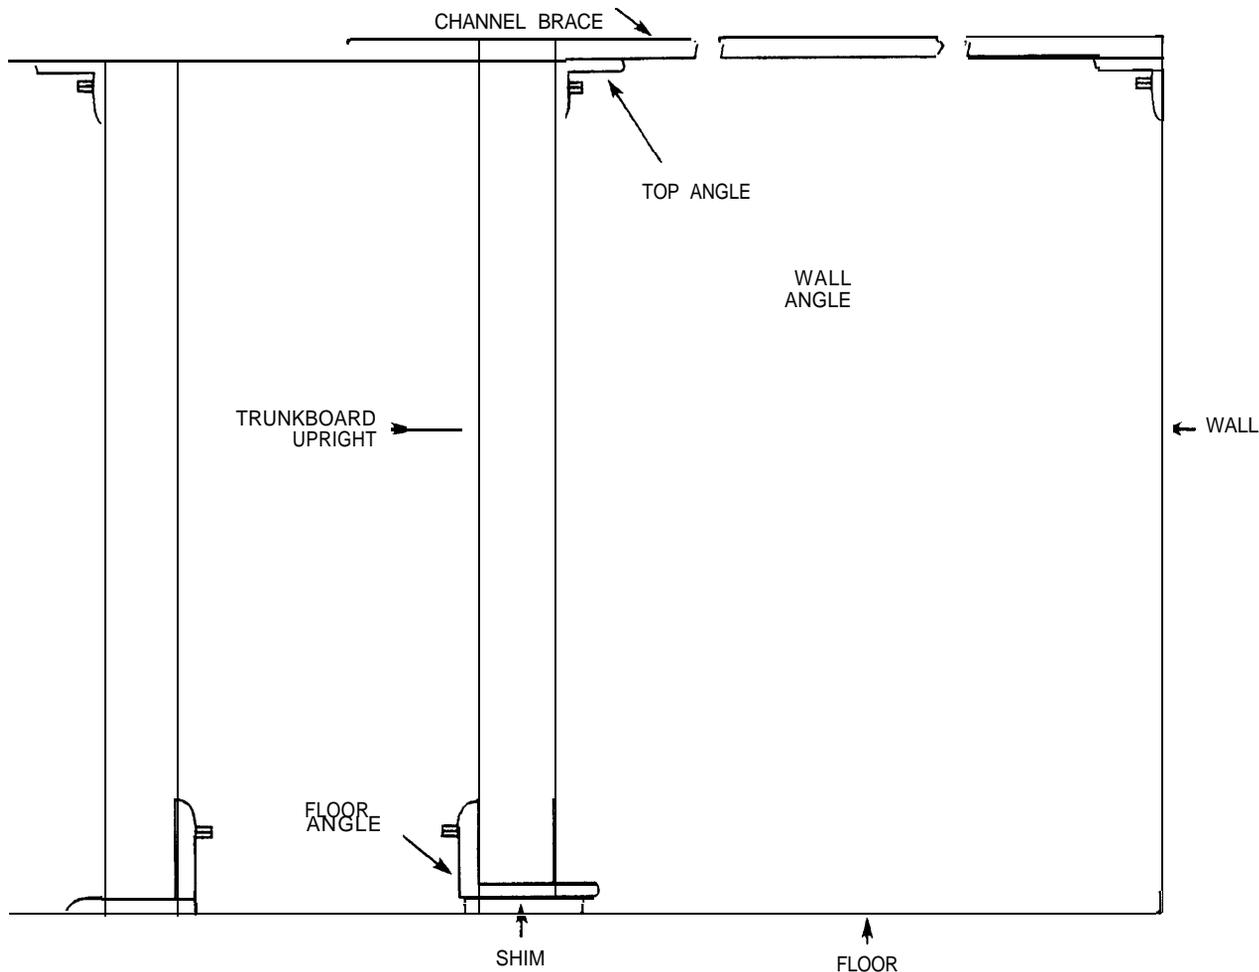

Figure 11. Shim Placed Under Floor Angle.
NOTE: When this configuration is used for frames requiring isolation, use H-440000-K, Figure 900 Material (Figure 11).
4.10 When leveling is required because of uneven floors, etc, place lead or metal shims under the floor angles at the place where the uprights will be located (Figure 11). These shims must not extend
6.08 Anchor the channel brace support (paragraph 4.04) to the floor in the predetermined location by using the type and size of anchors recommended by the site supervisor or installation foreman. Make certain that shims and isolation materials, if required, are placed under both the floor angle and support post of the channel brace support prior to securing the anchor device that holds the floor angle to the office floor (Figures 11 and 13). Verify that the top angle of the channel brace support is facing the correct position so that the channel brace is secured properly by the J bolts on the top angle.